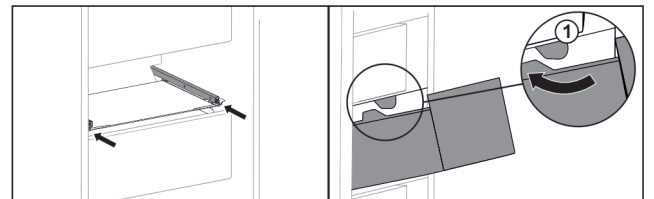

Fig. 144
- ▶ Guide drawer around the stoppers Fig. 144 (1).